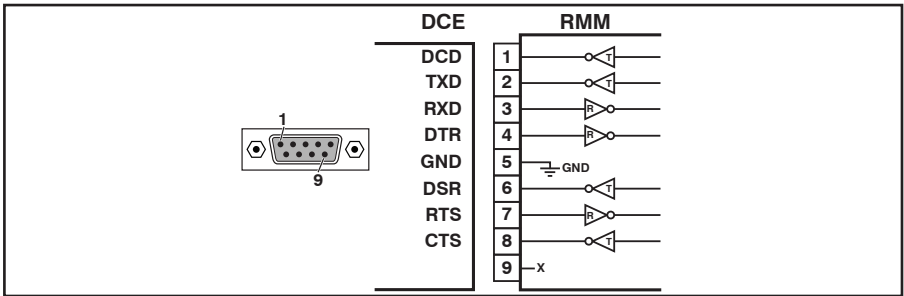

Figure 2. DB9F Modem Port (DCE)
- **DB9F Modem Port:** Use a standard DB9 PC to Modem cable. For a description of the port pinout, see Figure 2.